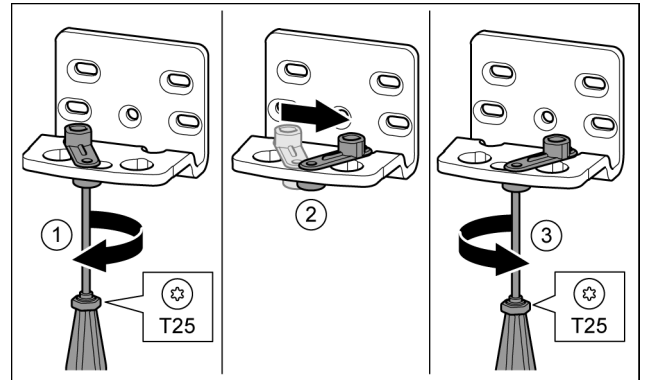

Fig. 16 *
- ▶ Loosen the screw using a T25 screwdriver. Fig. 16 (1) *
- ▶ Lift the door closure aid and turn it 90° to the right in the hole. Fig. 16 (2) *
- ▶ Tighten the screw using a T25 screwdriver. Fig. 16 (3) *